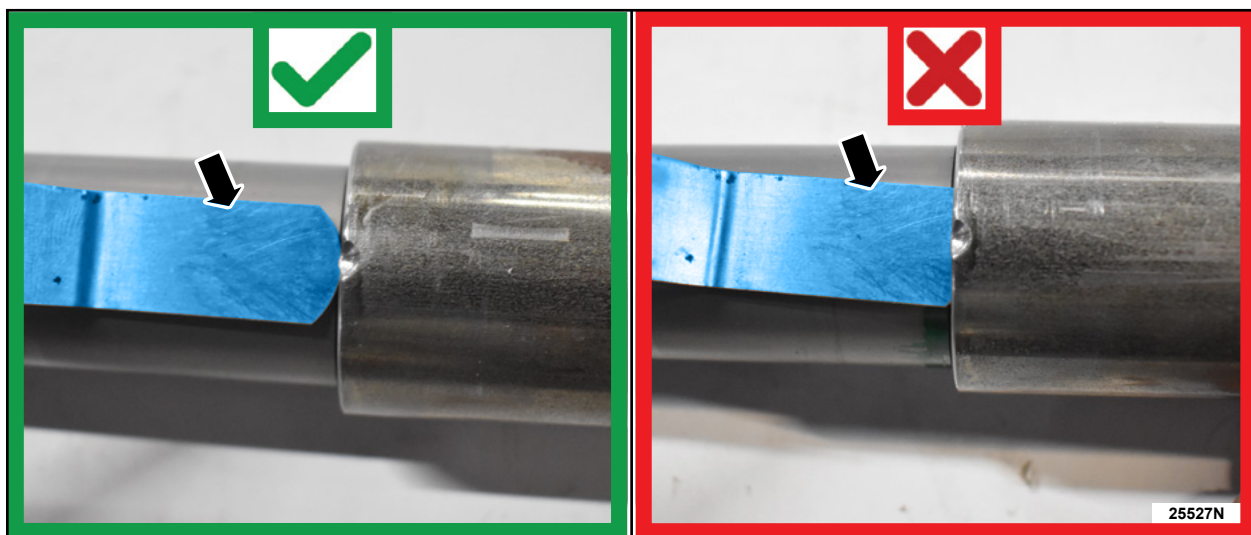

FIGURE 11
12. Using a 0.020 in (0.508 mm) feeler gauge, inspect both of the stakes. See Figure 11.